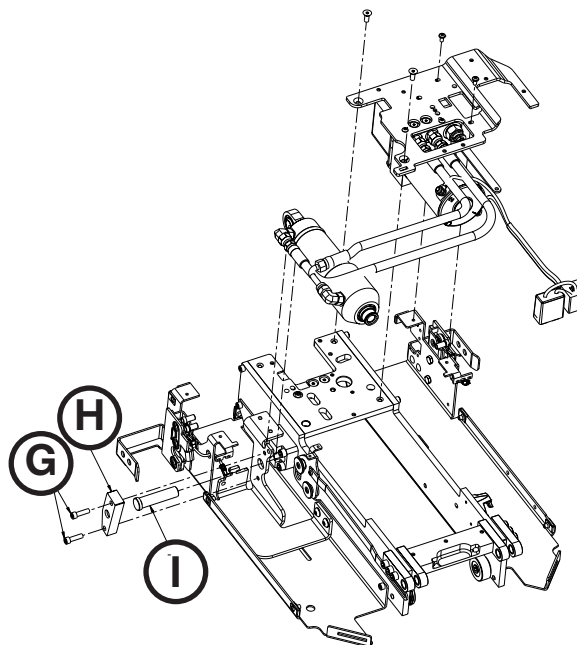

Figure 73
11. Using a 3/16" hex wrench, remove the two screws (G) that secure the pin bracket (H) to the trolley (Figure 73).
12. Remove the pin (I) and lift the hydraulic cylinder out (Figure 73).